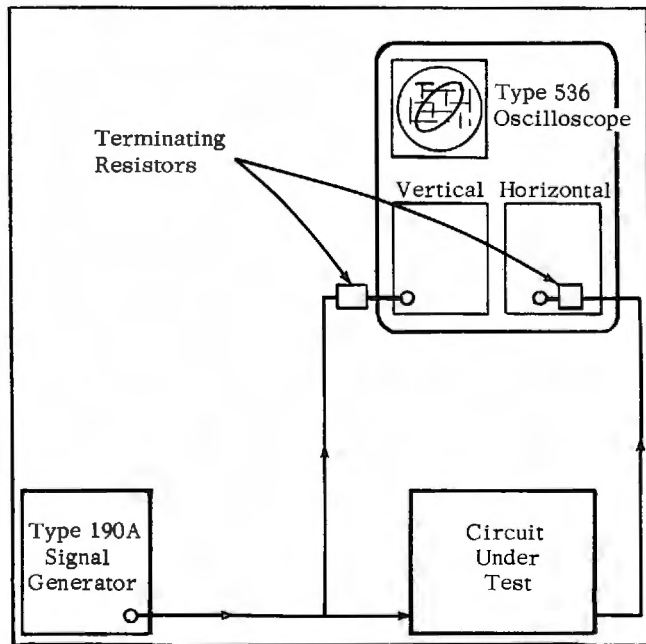

Fig. 3-5. Circuit connections for phase measurements.
A typical setup for phase measurements on an external circuit is shown in Fig. 3-5. Examples of circuits that can be tested are amplifiers, transformers and filters. We will describe high-frequency phase measurements where coaxial connections are required. Measurements at audio frequencies are similarly performed. To make the phase measurements:
2. Make the circuit connections as shown in Fig. 3-5.